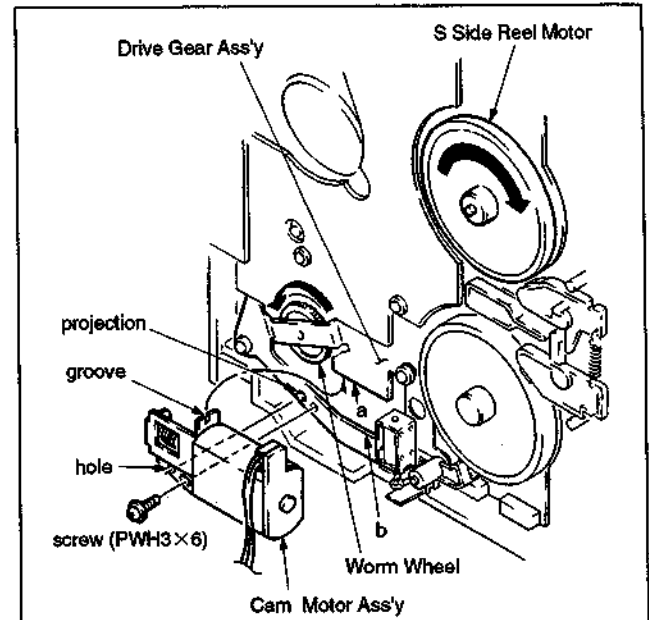

Fig.1.
4. Rotate the S side reel motor by hand in the direction of the arrow so that the tape is taken up into the cassette. (Fig.1.)
2. Turn on No.1 switch of DIP switch S101/SS-58 board (C-1). (This stops tape top/end stop sensor function.) (Fig.1.)